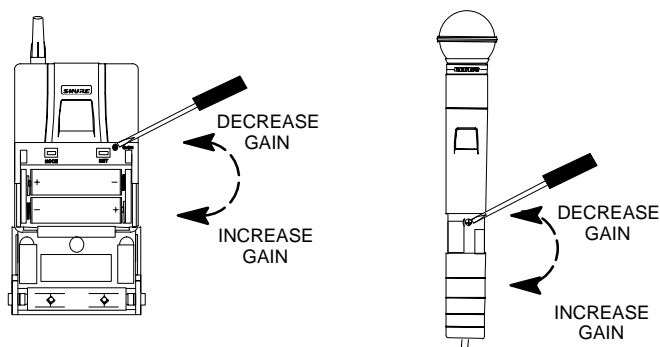

FIGURE 47
ADJUSTING TRANSMITTER AUDIO GAIN LEVEL (FIGURE 47)
NOTE: The factory-preset (–6 dB) should match most applications. Before changing the audio input level, try adjusting the transmitter gain (see Figure 47).
3. Readjust the *Gain* pot so the red “Audio” LED on the U4 receiver flickers only occasionally at the strongest peaks during a performance (see Figure 47).